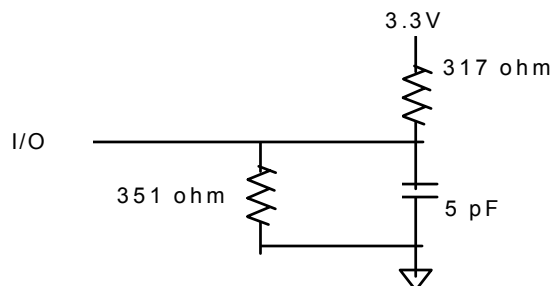

Fig.2 Output Load Equivalent
6. Output loading is specified with $C_L=5pF$ as in Fig. 2.